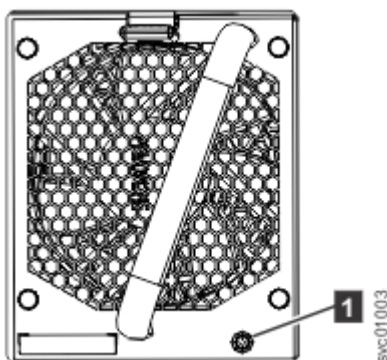

Figure 159. Fan module LED
1. Identify the fan module to be replaced. When lit, the amber LED on the front of the fan module (1 in Figure 159 on page 203) identifies a fault.